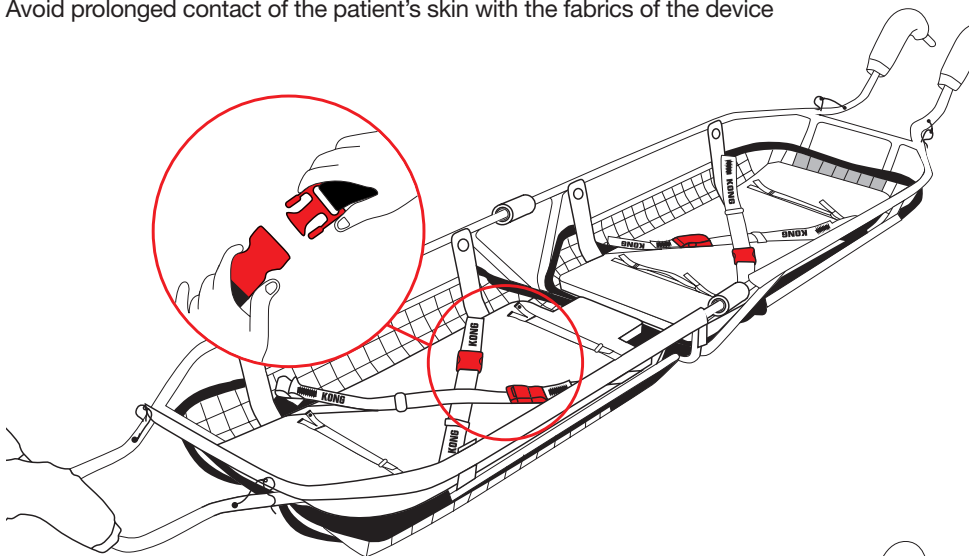

Fig.13
- Unhook the buckles and open the securing straps (Fig. 13),